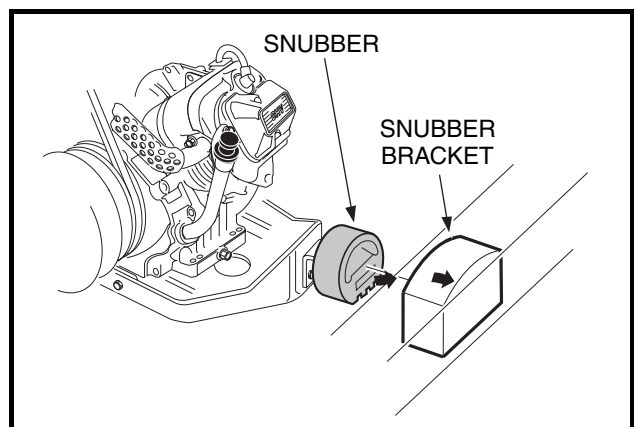

Figure 16-41 Snubber
13. Remove the blocks from under the engine and roll the powertrain into position under the vehicle. Then lift the front of the powertrain and place the snubber into the snubber bracket in the vehicle frame (**Figure 16-41, Page 16-17**).